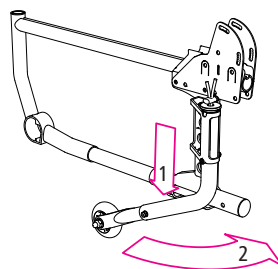

Fig. 22
3. To activate the anti-tip wheel push the tube downwards (1, Fig. 22).
4. Now the anti-tip wheel can be swivelled back again (2, Fig. 22).